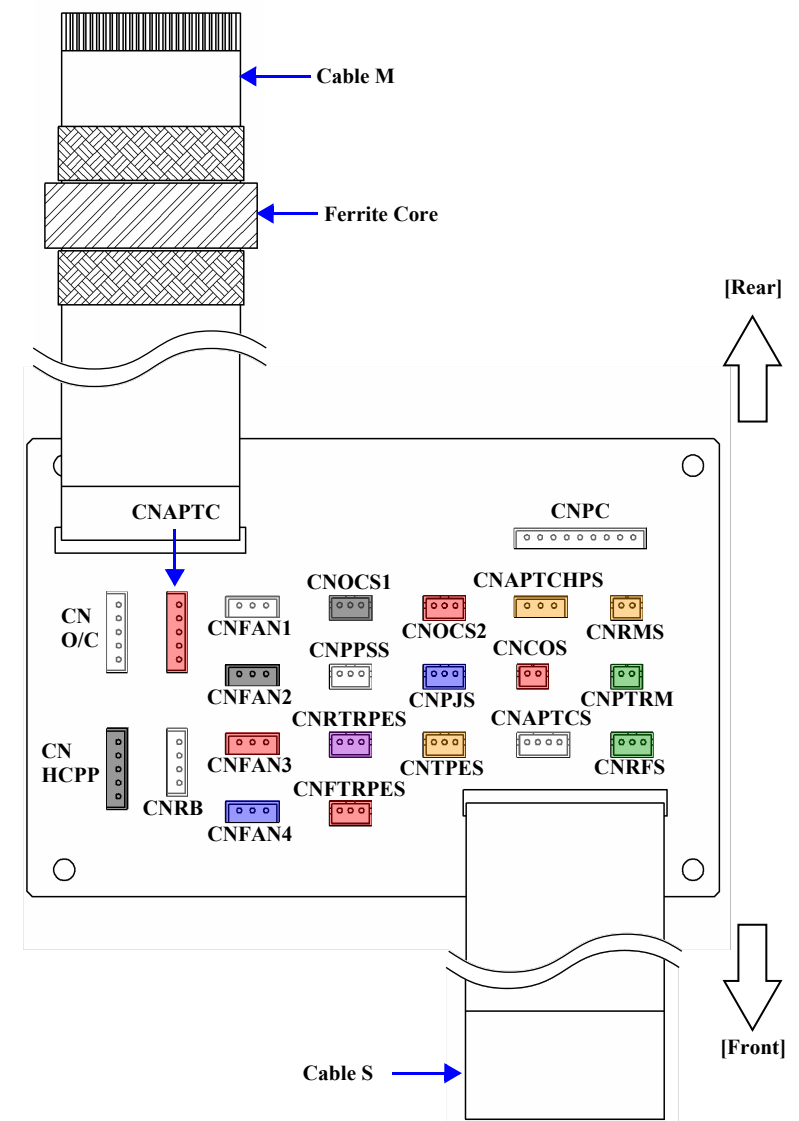

Figure 4-13. SENSOR BOARD UNIT Removal (1)
2. Disconnect all the cables except Cable M and Cable S from the SENSOR BOARD UNIT. See the connector map, Figure 4-13 on page 146.